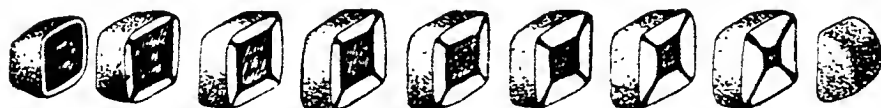

Figure 161. Chiastolite Crystal, Showing Carbonaceous Inclusions
**Andalusite**, another aluminum silicate,  $\text{Al}_2\text{SiO}_5$ , is remarkable for the regular arrangement of carbonaceous impurities inside the rough, rounded crystals of the variety *chiastolite*. This is shown in figure 161.